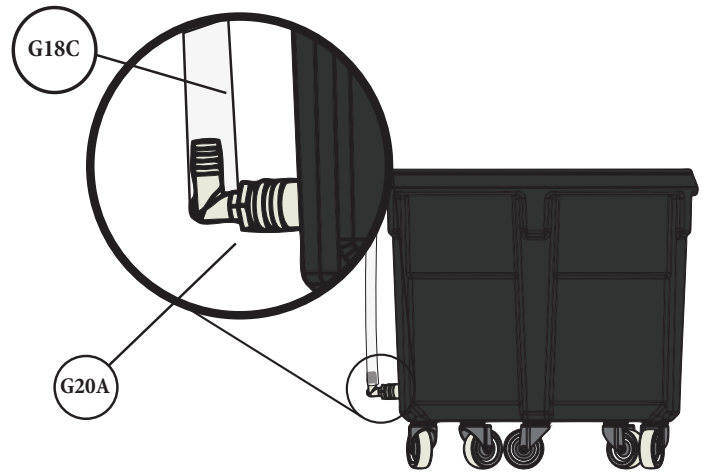

FIG. 30
Attach the long end of the Tube Assembly (G18C) onto the Nylon Elbow (G20A) installed on the lower section of the Drum (K). Push the Hose onto the fitting so that all barbs are covered [FIG. 30].